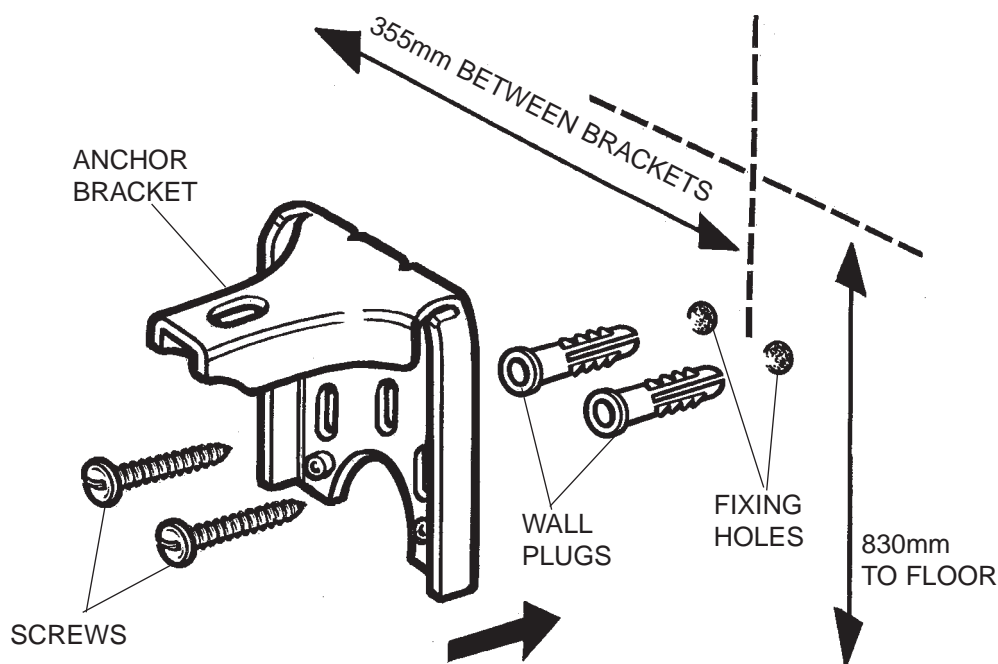

Figure 2 - Fixing an anchor bracket
In order to eliminate the risk of the cooker falling forward, two chains have been installed at the rear of the cooker. Before use, these will need to be fastened securely to the wall behind the appliance with the anchor brackets supplied. (Figure 2):
1. Decide on a suitable wall location for the chain anchors, directly behind each cooker chain, at a height of 830mm from floor level. The distance between the two brackets should be 355mm, measured from the centre of each bracket. (Figure 2).
2. Hold the chain anchor up to the wall where it will be required, and mark the fixing holes. (Figure 2).